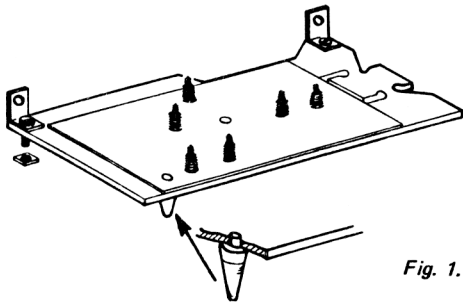

Fig. 1.
Take the mounting plate (49) and the mounting card (64) for the circuit which you wish to build. Hold the mounting plate with the largest cut-out portion facing away from you and the shiny side uppermost. (Fig.1). Take the mounting card and push out all the cut-out holes,